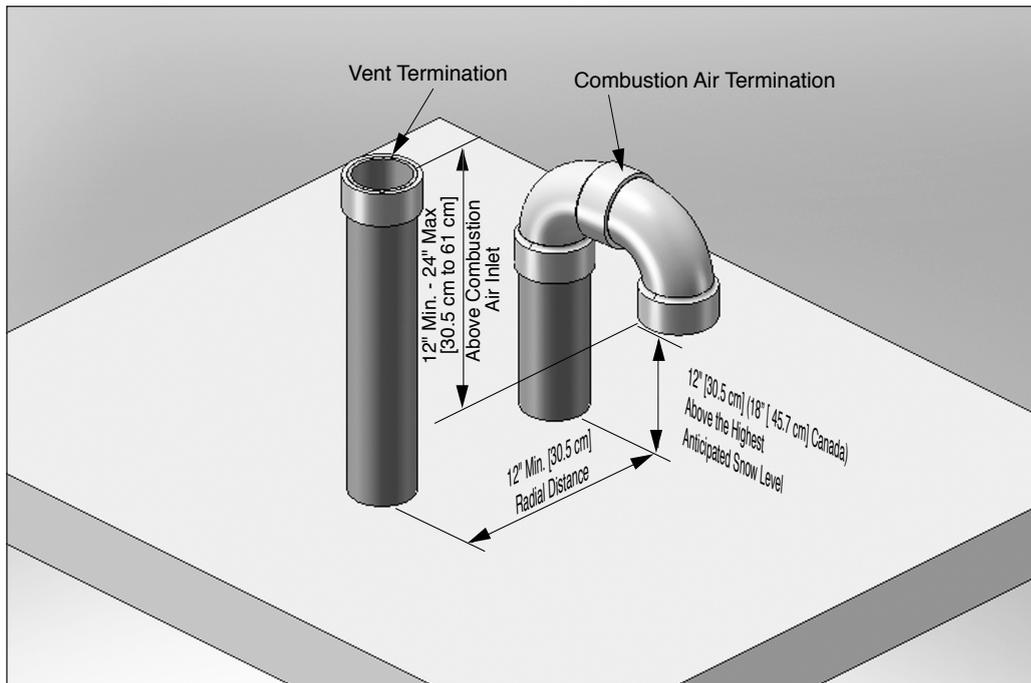

Fig. 1 - Direct Vent - Vertical Termination of Vent and Combustion Air Piping.
2. The combustion air piping must terminate in an upside down "U" shape fashion using two 90° elbows, as shown in *Fig. 1 on page 12*. The termination must be located 12" [30.5 cm] (18" [45.7 cm] in Canada) above the highest anticipated snow level.
3. The vent piping must terminate vertically with a coupling to accept the bird screen and must be located 12" to 24" [30.5 cm to 61 cm] above the combustion air inlet as shown in *Fig. 1 on page 12*.
4. The vent and combustion air terminations must be located at a radial distance of 12" to 24" [30.5 cm to 61 cm] from centerline of vent termination to centerline of air termination as shown in *Fig. 1 on page 12*.
3. Locate the vent and combustion air pipe penetrations to provide clearances as described in *Fig. 1 on page 12*.
2. The combustion air piping must terminate in an upside down "U" shape fashion using two 90° elbows as shown in *Fig. 1 on page 12*.
3. The vent piping must terminate vertically with a coupling as shown in *Fig. 1 on page 12*.
Do not extend the vent pipe above the roof beyond the dimensions shown in *Fig. 1 on page 12*. Extended exposure of the vent pipe could cause condensate to freeze and block the vent pipe, resulting in substantial property damage, serious injury, or death.